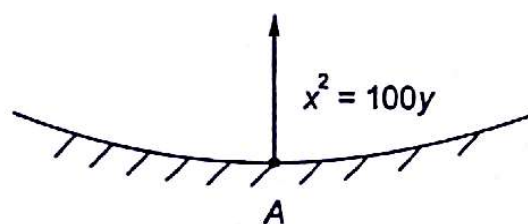

Fig. 11.15
- 11.3 A car travels along a depression in a road, the equation of depression is $x^2 = 100y$ speed of the car is constant and is equal to 10 m/s. What is acceleration of the car at the deepest point A (Fig. 11.15)?